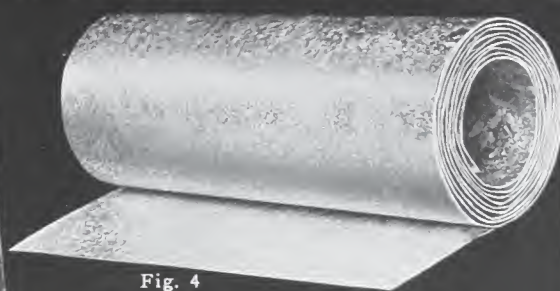

Fig. 4
When another crimp is placed in the center of the sheet, it is called 3 V-Crimp roofing. See Fig. 4, page 18. This provides a stiffer sheet for use in very windy locations.
*Roll Roofing*, as shown in Fig. 4, page 19, consists of several sheets of steel having their ends locked together at the factory by double cross seam locks so as to form one sheet 50 feet long. The customary width is  $26\frac{1}{2}$  inches and each roll has a net covering area of 100 square feet when laid. To facilitate handling, the long sheet is put up in the form of a roll. The flanging treatment of the side edges of the sheet when unrolled determines whether it will become Self-Capping Roll Roofing or Double Standing Seam Roll Roofing. One edge of the sheet is turned up to form a flange about  $1\frac{1}{2}$  inches high. The other edge is given a flange only one inch high. All sheets are flanged alike and laid on the roof side by side in such manner that the tall flange of one sheet butts up against the short flange of the adjacent sheet.